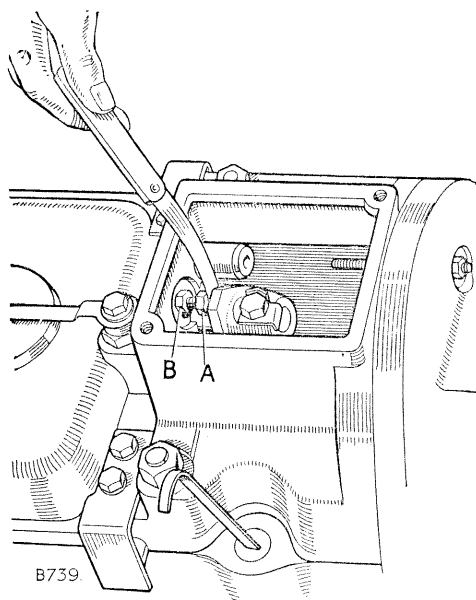

Fig. C-15—Adjusting 2nd speed gear bolt
39. Fit the set bolt and locknut (acting as a 2nd speed stop) in the top cover. Select 2nd gear and adjust the stop bolt so that there is .002 in. (0,05 mm) clearance between the bolt head and the stop on the selector shaft; tighten the locknut (Fig. C-15). The reverse stop bolt cannot be adjusted until the transfer box has been fitted. Operation C/20.